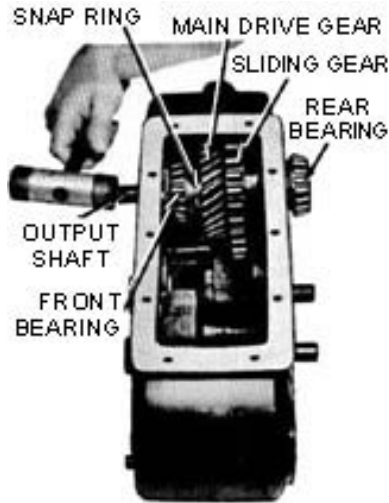

Figure 8 – Removing Front Output Shaft
16. Wedge the front output shaft front bearing away from the main drive gear to allow removal of the snap ring from its groove in the shaft. Then, tap the shaft and rear bearing out of the case (Fig. 8).